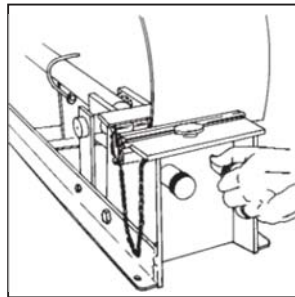

Figure 2
3. ADJUST LACER FOR BELT THICKNESS by loosening both adjusting knobs. Move both pressure plates to one end of Lacing Tool. Insert belt NEXT TO PRESSURE PLATES. With belt in lacer, tighten both adjusting knobs as tight as possible by hand (Fig. 2).